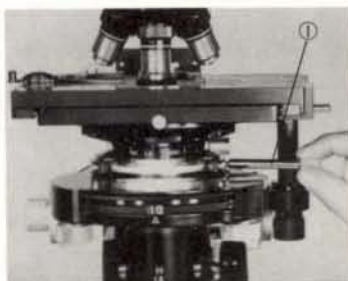

Fig. 1
- 2) For tightening the condenser clamping screw, fit the auxiliary clamping wrench onto the condenser clamping screw. After tightening, remove the auxiliary clamping wrench. (Fig 1)